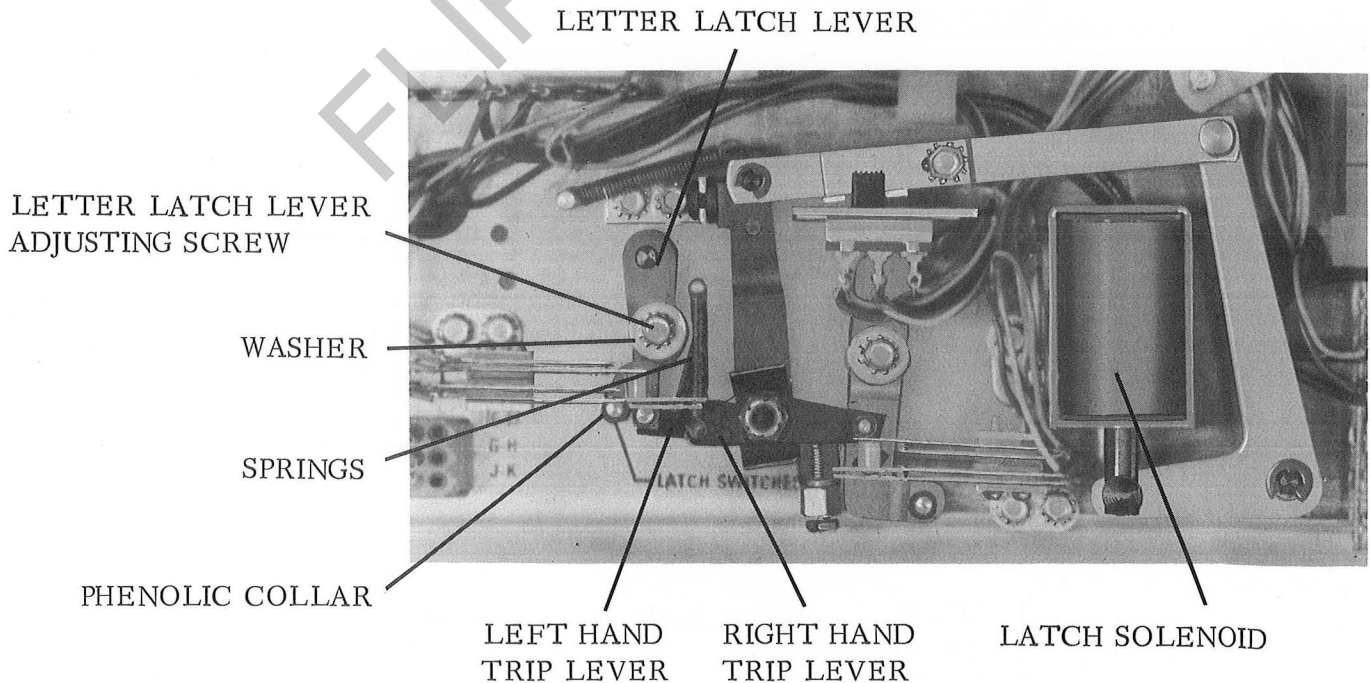

Figure 1
Verify that LETTER LATCH LEVER is equipped with PHENOLIC COLLAR as shown in Figure 1. If LETTER LATCH LEVER is not equipped with PHENOLIC COLLAR, replace as follows:
1. Remove and retain SPRINGS from LEFT and RIGHT HAND TRIP LEVERS shown in Figure 1.